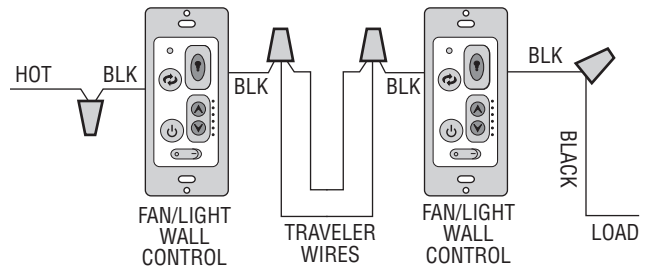

Figure 36
**NOTE:** Retrofit 3-way installations are likely to include two traveler wires between the two wall boxes. In new construction, only one traveler wire is required (See Figure 36).
The wall control is supplied with a white, ivory, and almond color switch covers. Choose the finish that best suits your needs and snap the cover onto the wall control (Figure 36).